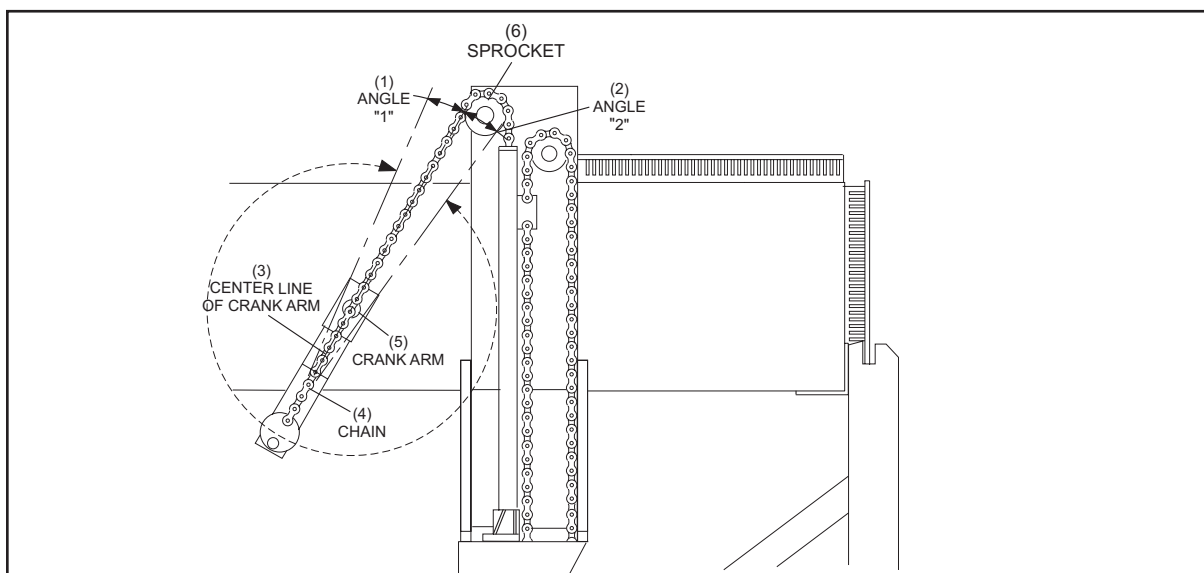

Figure 5-30 Chain Angles - Clockwise vs Counter-Clockwise
3. To verify the timing is correct, compare the distance the drive chain is offset from the center line of the crank arm when the table motor turns off at the "A" switch after running clockwise and counterclockwise. The offset distances or angles should be equal. Refer to *Figure 5-30*.